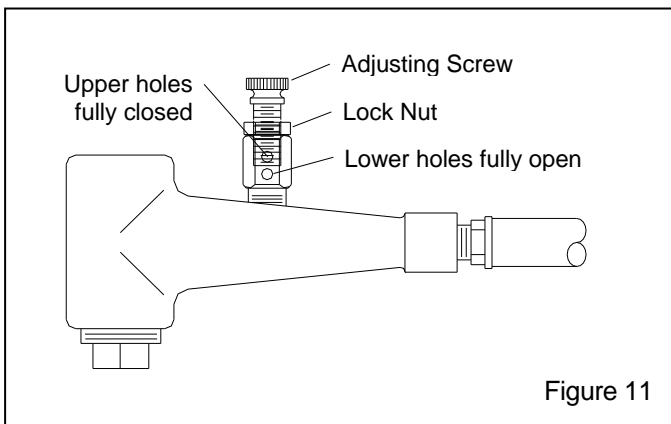

Figure 11
**5.3 Media/Air Mixture, Figure 11**
**5.3.2** If media does not flow smoothly, loosen the lock nut, and adjust the metering screw until the upper holes in the metering stem are closed-off, and the lower holes are fully open, as shown in Figure 11. This adjustment is a starting point.